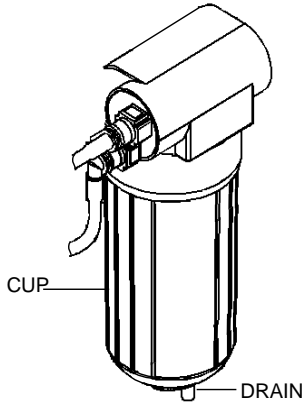

Figure 44. Fuel Filter
1. Replace the secondary fuel filter (Figure 44) every 800 hours. Refer to your engine manual for specific details to perform this operation.